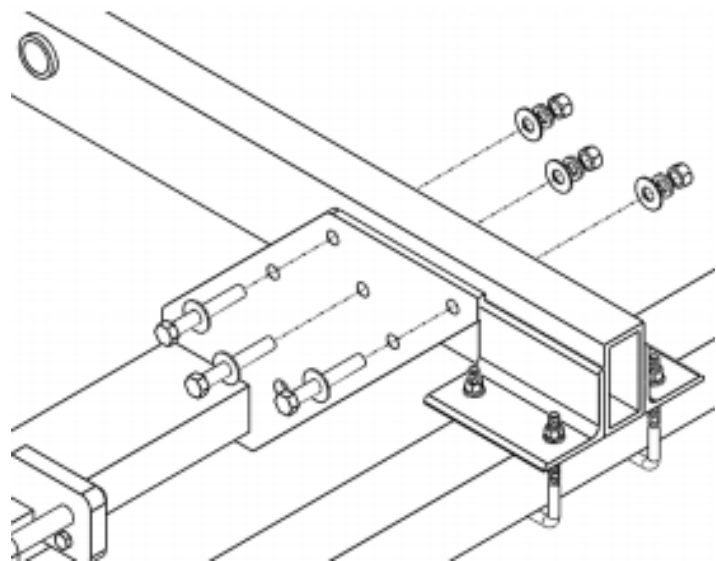

Figure 6
1. Align the holes on the Lower Cylinder Mount with the corresponding holes on the Side Beam as shown in figure 6.
2. Attach one (1) 1/2" Flat Washer to three (3) 1/2" x 3-1/2" Hex Bolts and insert into the corresponding holes as shown in Figure 6.
3. Attach one (1) 1/2" Flat Washer, one (1) 1/2" Lock Washer, and one (1) 1/2" Hex Nut to each of the three (3) protruding ends of the Hex Bolts and hand tighten.